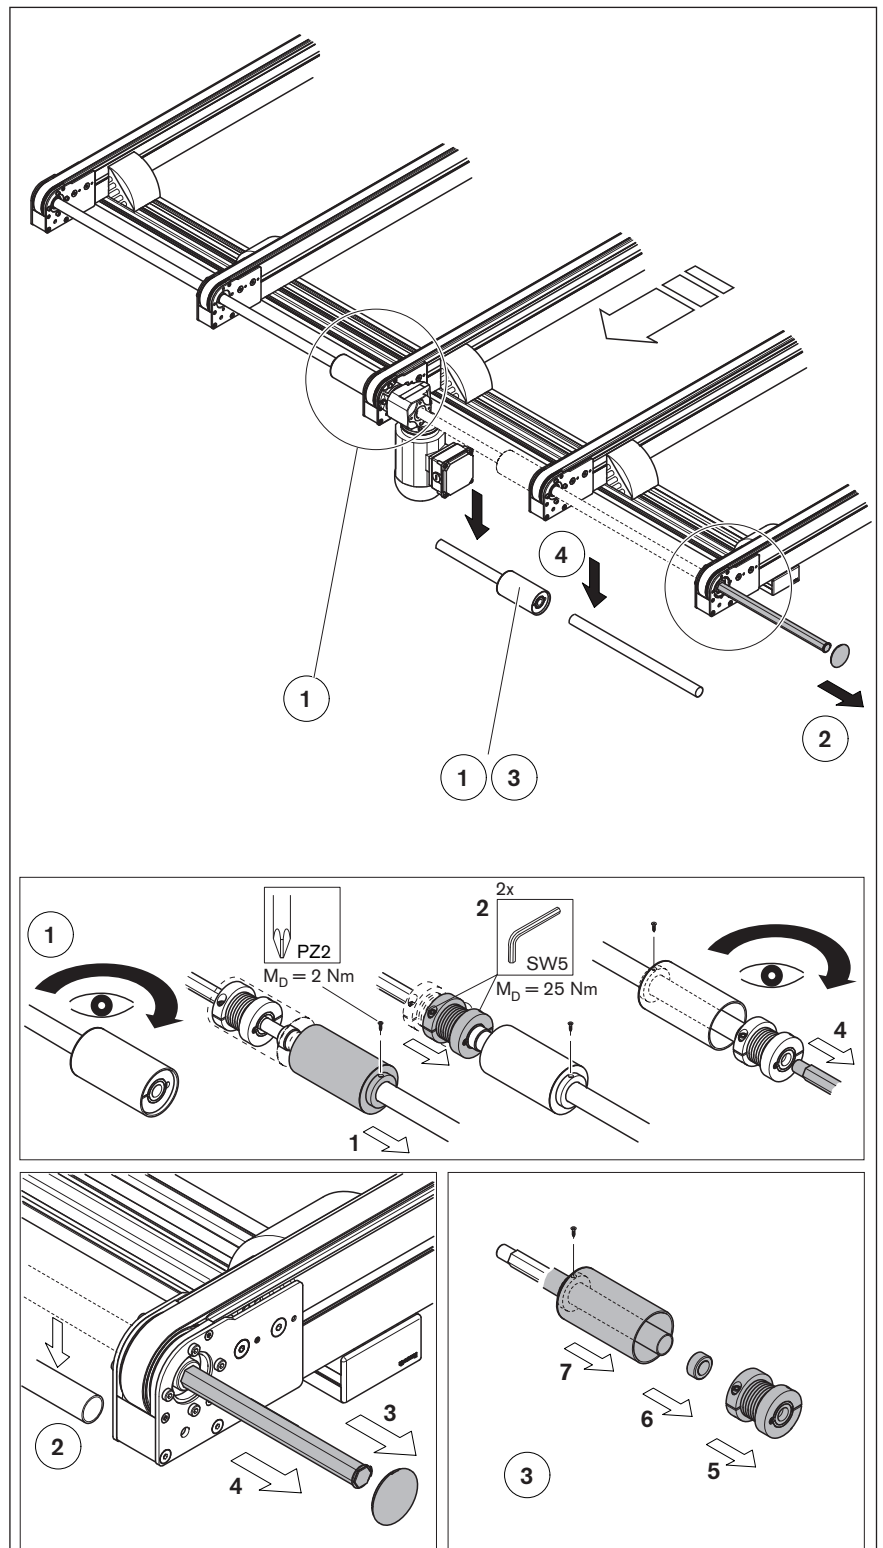

Fig. 20
- Frequency measuring instrument (C) with sensor head (B) to measure the belt tension.
- 2 pins $\varnothing 4 \times 40$ mm (A).
Lift the belt off of the guide profile, slide two pins $\varnothing 4$ mm (A) between the belt and guide profile (see "Fig. 20" on page 40).